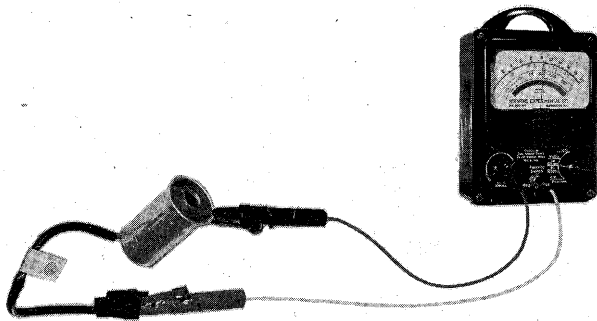

Figure 10
If the solenoid does not draw the butterfly closed, it should be checked with an OHM meter. The model shown in Figure 10 is STEVENS AT-100 VOLT/OHM Meter. Set meter to LO OHM scale and calibrate needle. Then attach one lead to solenoid's electrical terminal, the other to ground on the coil case. Measurable resistance should be approximately three (3) OHMS if solenoid is good. An infinity reading indicates an open winding in the solenoid; a very low OHM reading indicates an internal short, both of which necessitate solenoid replacement.